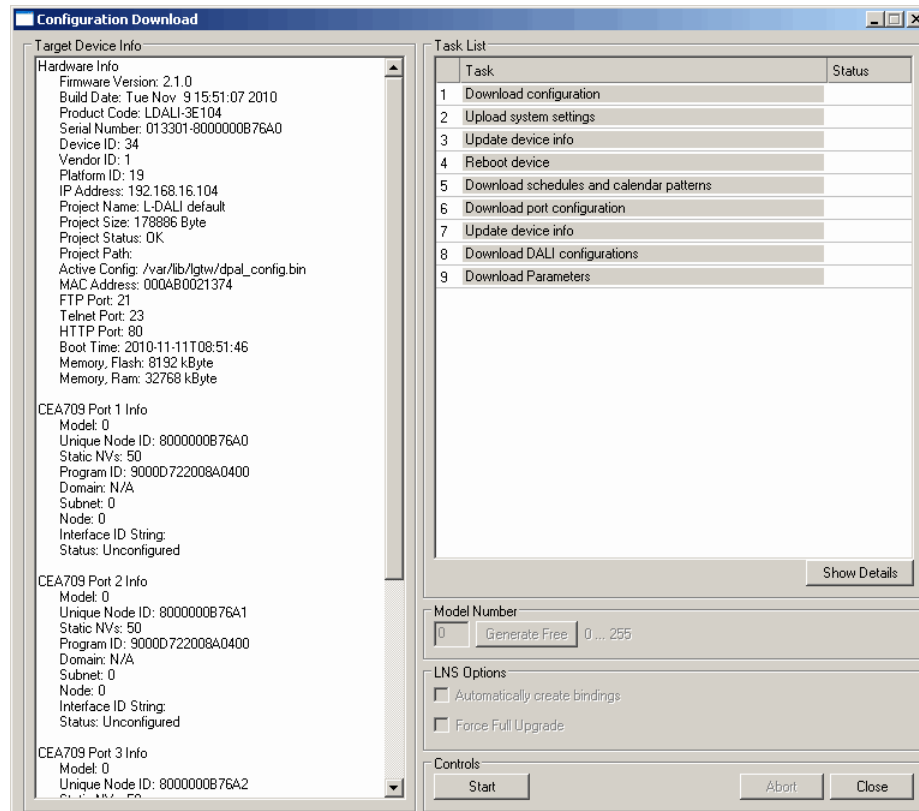

Figure 101: Configuration Download Dialog.
3. After clicking on **OK** the **Configuration Download** dialog appears as shown in Figure 101. Click **Start** to start the download. Each of the actions is displayed in the **Task List** section of the dialog. The current progress is indicated by the progress bar below.